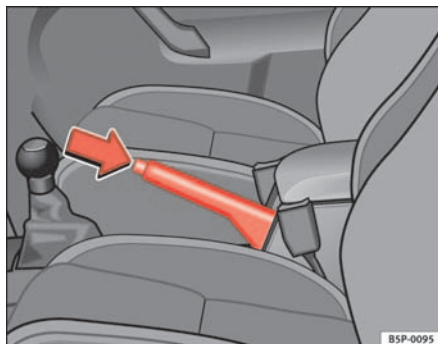

Fig. 99 Handbrake between the front seats
- Pull the handbrake lever up firmly ⇒ fig. 99.
- Pull the lever up slightly and press the locking knob in the direction of the arrow ⇒ fig. 99 and guide the handbrake lever down fully ⇒ ⚠.